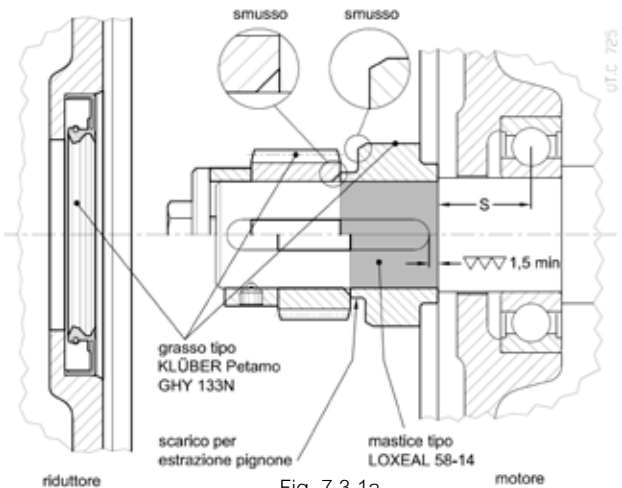
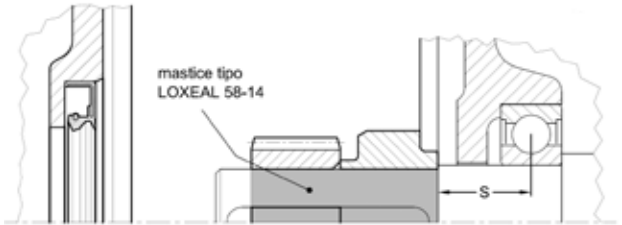

Fig. 7.3.1a
Fig. 7.3.1b
- d) the **axial fastening system** where foreseen (head self-locking screw with base, spacer, or hub clamp with one or more dowels, fig. 7.3.1A); for the cases foreseen **without axial fastening** (fig. 7.3.1b), seal with **locking adhesive type LOXEAL 58-14** also the motor shaft section below the **pinion**;